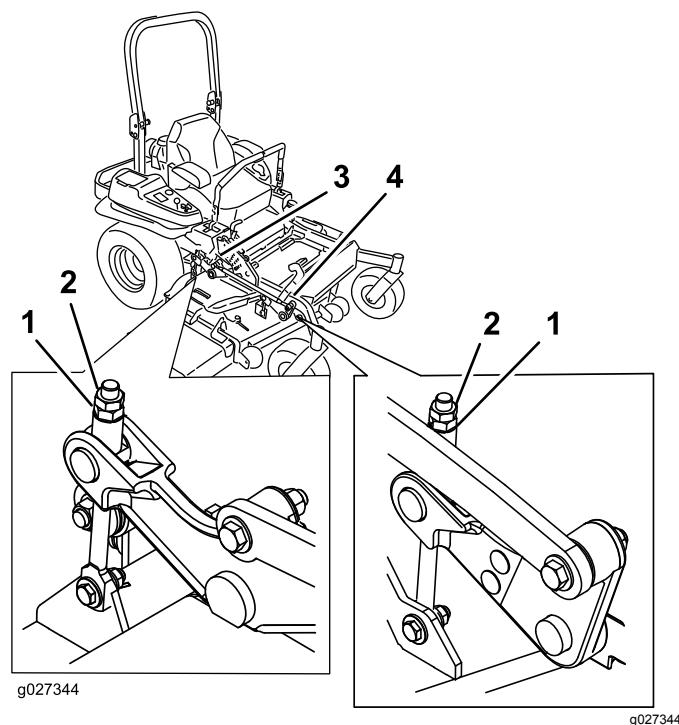

Figure 91
10. Fine-tune the adjustment nut on the front deck lift assembly by turning it (Figure 91).
16. Fine tune the screw adjuster by turning it to get 8.3 mm (3-1/4 inch) height (Figure 91).